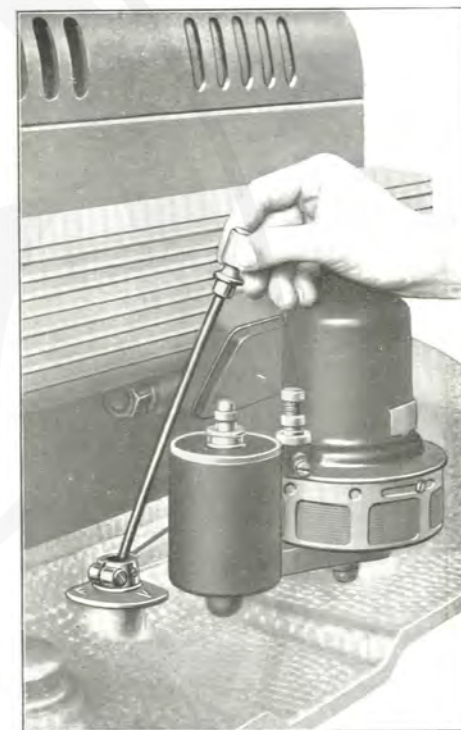

Fig. 6.
3. — **Draining and gauge** : The flexible gauge is drawn out vertically. It is kept in place by means of an expansible part (fig. 6).